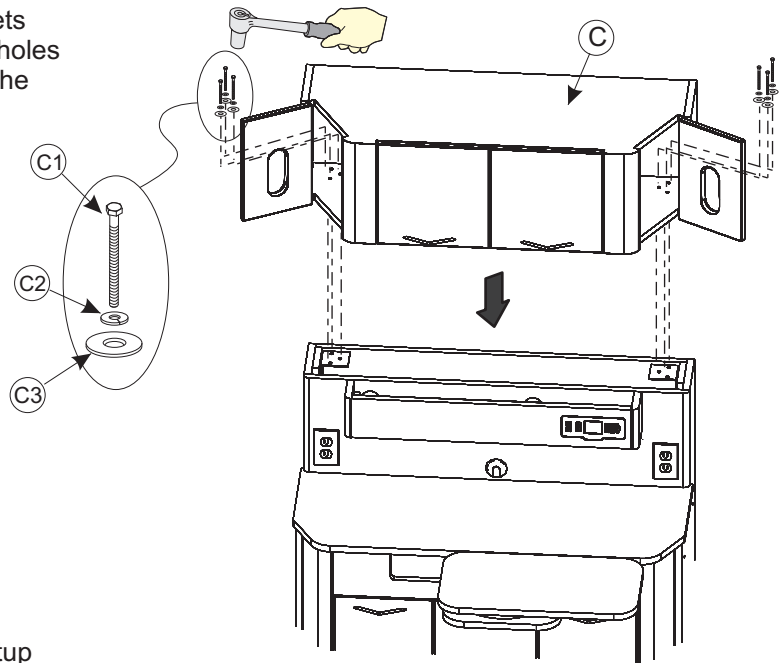

Figure 3
Place Lower Cabinet Upper Storage (C) onto metal brackets located at the top of the Lower Cabinet sides. Line up the holes with the holes in the bottom of the Upper Storage (see Figure 3).